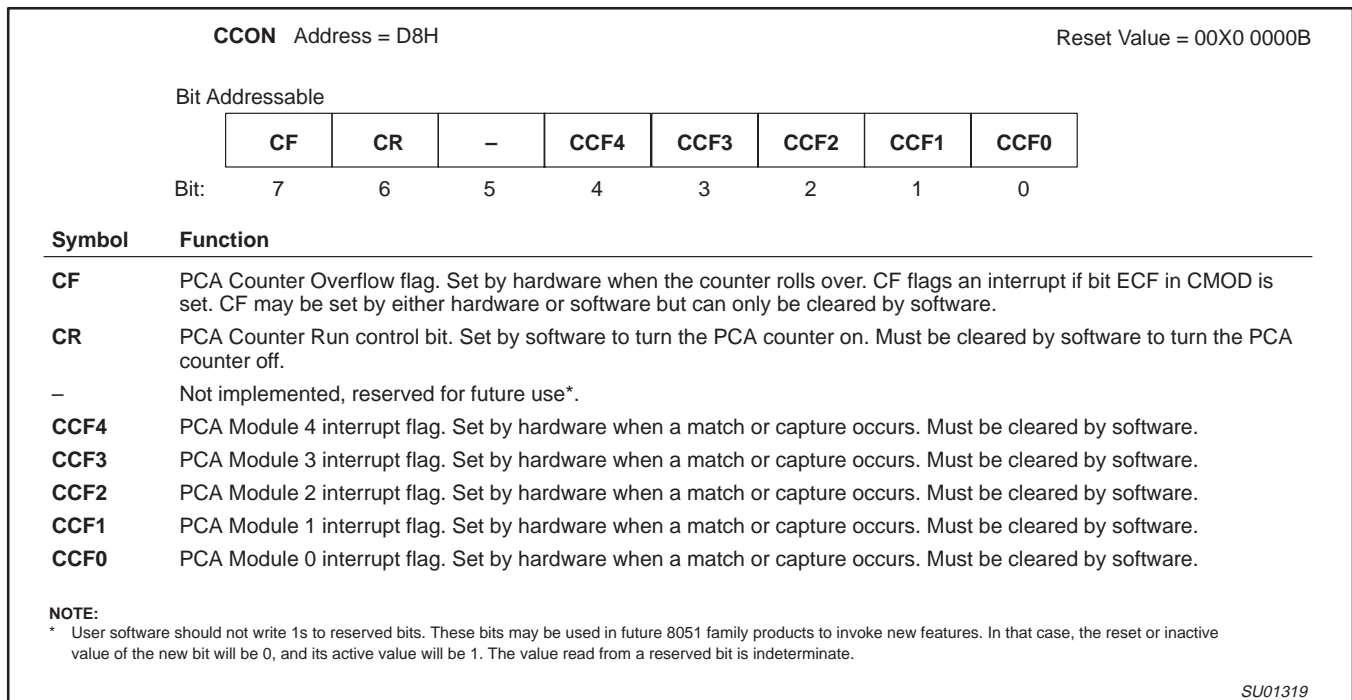

Figure 29. CCON: PCA Counter Control Register
The CCON SFR contains the run control bit for the PCA and the flags for the PCA timer (CF) and each module (refer to Figure 29). To run the PCA the CR bit (CCON.6) must be set by software. The PCA is shut off by clearing this bit. The CF bit (CCON.7) is set when